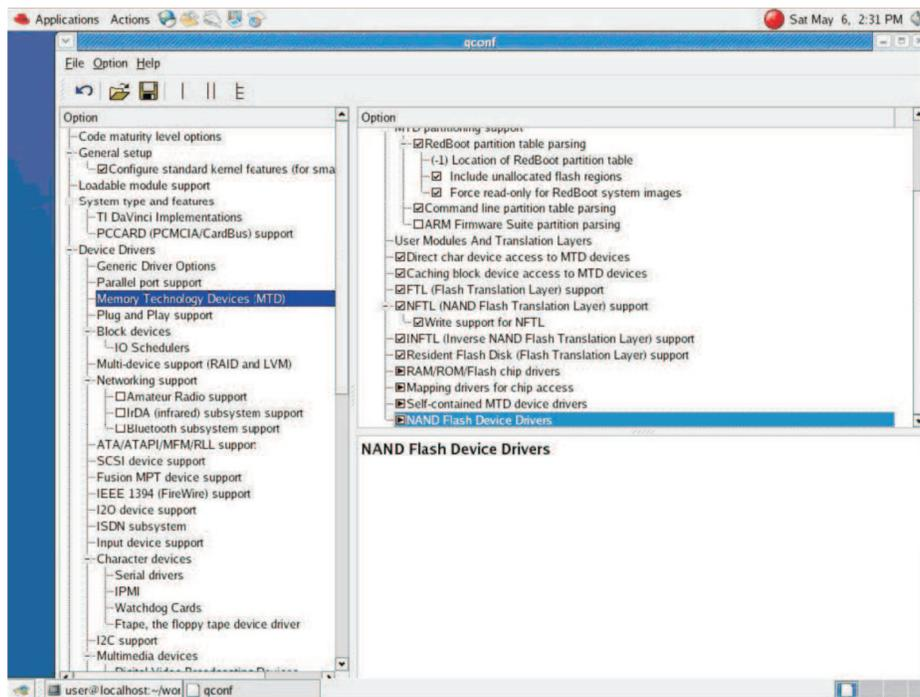

Figure 8. Selecting NAND Flash Device Drivers
- Go to the NAND Flash Device Drivers option under Memory Technology Devices (MTD). See Figure 8.